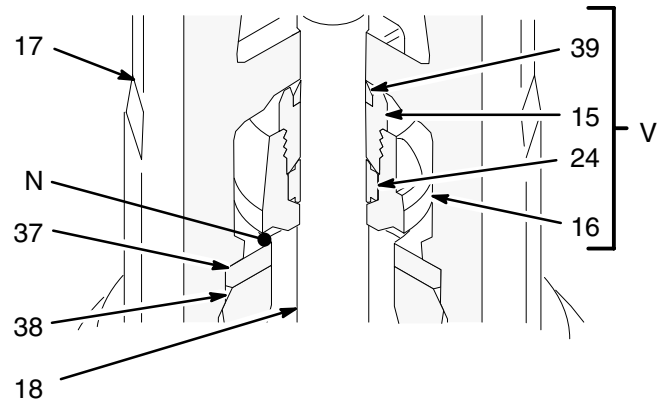

Fig. 6
**NOTE:** These instructions are written with the pump separating at joint A. If it separates at joints B or C, disassemble it at that joint, place the intake housing (17) in a vise, and continue with step 5.
5. Unscrew the intake valve housing (17) from the cylinder (10) and outlet housing (9). Pull the housing off the pump. The intake check valve assembly (V, see Fig. 6) should slide down the priming piston rod (18) as you remove the housing; if it does not slide easily, firmly tap on the top of the housing (17) with a rubber mallet to loosen.
6. Pull the intake seat (37) and seal (38) out the bottom of the intake valve housing (17). Take care not to drop the check valve assembly (V) as it comes free, and set it aside for later. See Fig. 6.
**NOTE:** If the seat (37) is difficult to remove, insert a hammer and brass rod through the top of the housing (17) and drive the seat out.
7. Using a rubber mallet, drive the displacement rod (1) and the priming piston rod (18) out of the outlet housing (9) and cylinder (10). Inspect the outer surfaces of the rods for damage by running a finger over the surface.
13. To disassemble the intake check valve assembly (V), place the intake valve body (16) in a vise and unscrew the packing nut (15). Remove the seal (39) from the nut, and the packing (24) from the valve body. Inspect the mating surfaces (N) of the intake valve body (16) and seat (37) for damage or wear. See Figs. 6 and 12.
**NOTE:** The seal (39) is press-fit in the nut (15) and may require cutting to ease removal.
14. Unscrew the bleeder valve plug (20) completely from the valve body (29). Clean the valve threads and the bleed hole. It is not necessary to remove the valve body from the pump outlet housing (9).